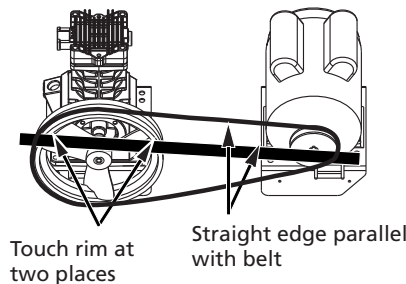

Figure 6
4. To align belt, lay a straight edge against the face of the flywheel, touching the rim at two places (See Figure 6).